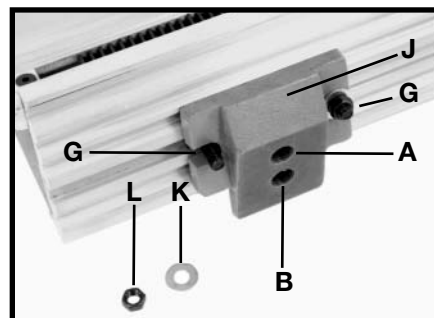

Fig. 24
2. Place mounting pad (J) Fig. 24 between two T-bolts (G) and slide T-bolts inward into slots of mounting pad (J) and fasten with two M10 flat washers (K) and M10 hex nuts (L). **NOTE:** Loosely tighten hardware.
NOTE: Use top hole of bracket (A) Fig. 24 for Model 46-715 14" lathe only. Use the center hole (B) Fig. 24 for all 16" lathes.